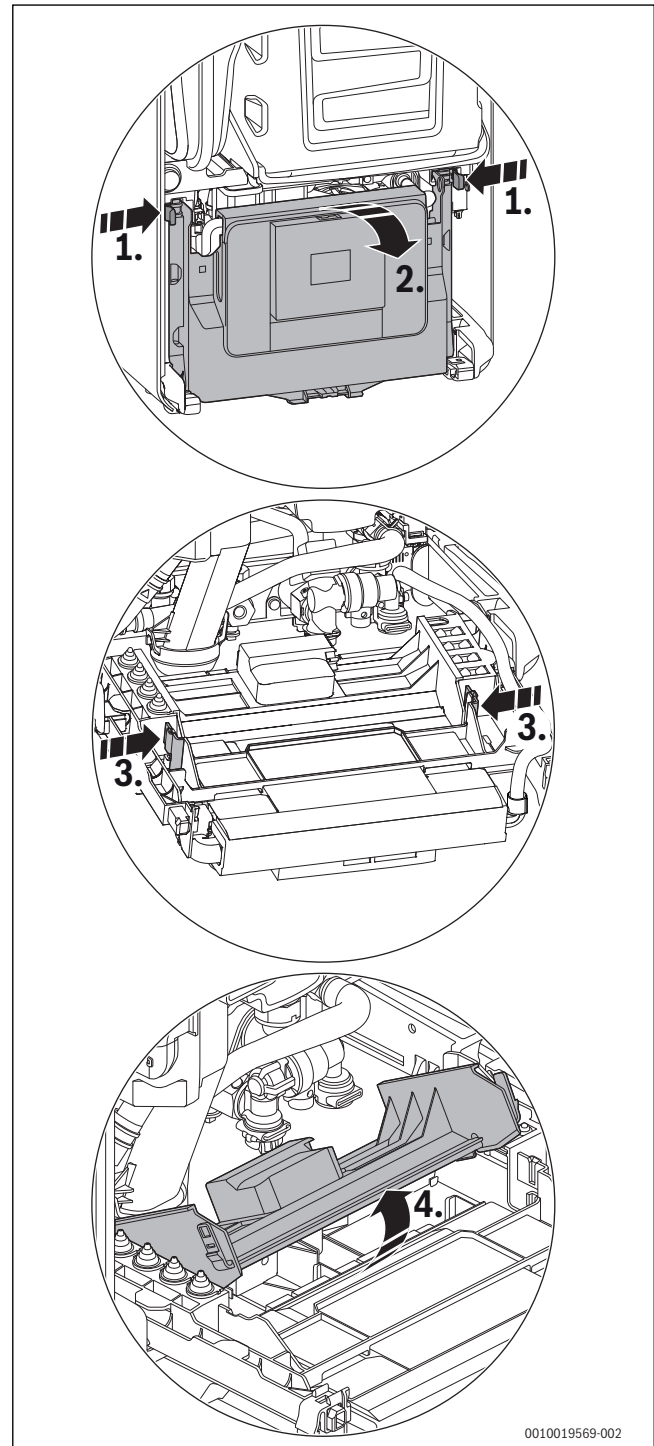

Fig. 50 Opening the cover
- ▶ Flip down the control appliance (→ Fig. 50).
- ▶ Flip down the control unit(→ Fig. 50).